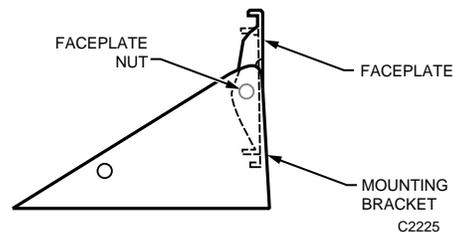

Fig. 20. Alternate Top Mount Faceplate Positioning.
5. Loosen faceplate nuts and align faceplate perpendicular to the bracket base (see Fig. 20).